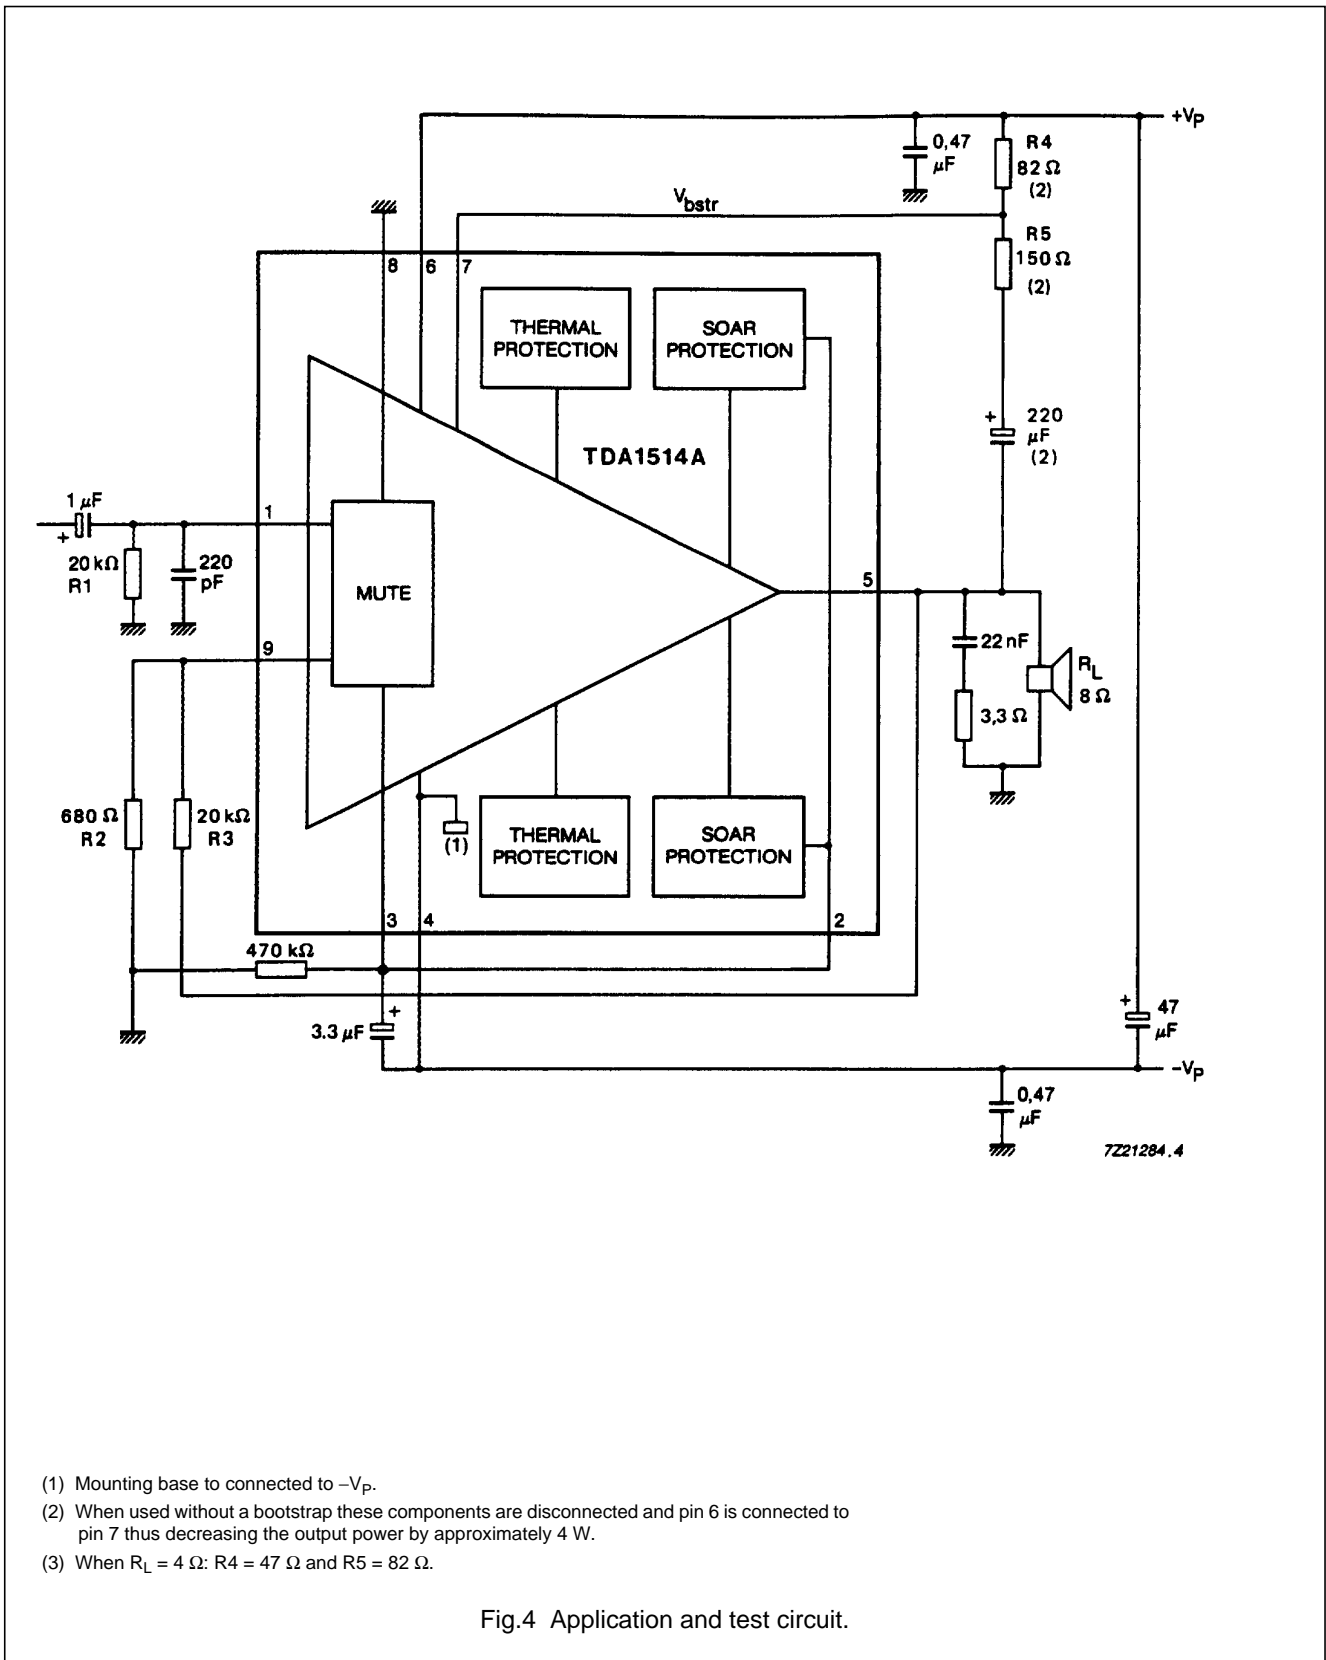

Fig.4 Application and test circuit.
$V_P = \pm 27.5$ V; $R_L = 8 \Omega$; $f = 1$ kHz; $T_{amb} = 25$ °C; test circuit as Fig.4; unless otherwise specified.
2. The closed loop gain is determined by external resistors (Fig.4, R2 and R3) and is variable between 20 and 46 dB.
3. The input impedance in the test circuit (Fig.4) is determined by the bias resistor R1.